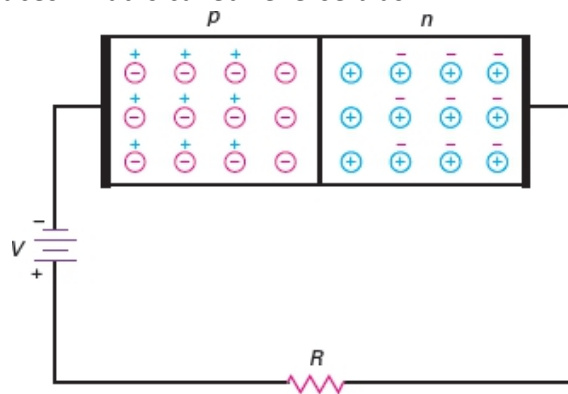

Figure-7 Reverse bias
- Turn the dc source around and you get Figure-7. This time, the negative battery terminal is connected to the p side and the positive battery terminal to the n side.